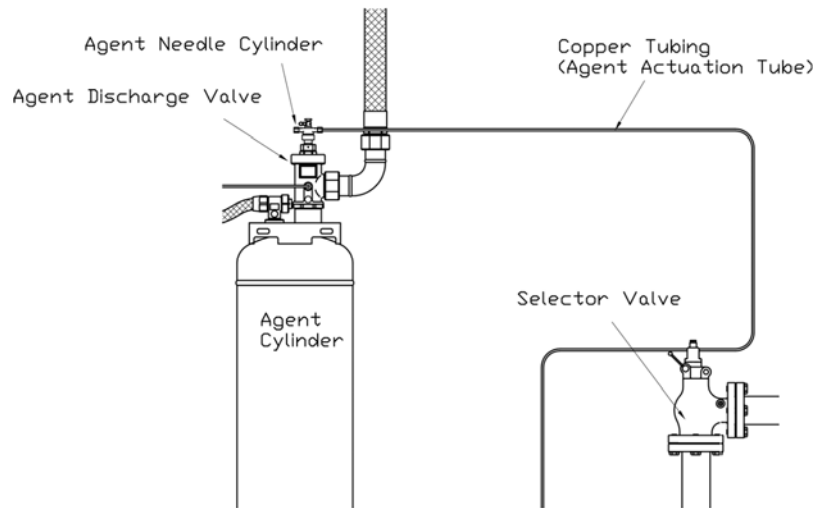

Figure 4.12. Installation of agent actuation tube.
1. Connect the agent actuation tube (CT-001) to the selector valve (AFC-SV-/32/40/50/65/80/100/125/150) and agent needle cylinder (AFC-NC-15) via the corresponding copper tube ports (see Figure 4.12).